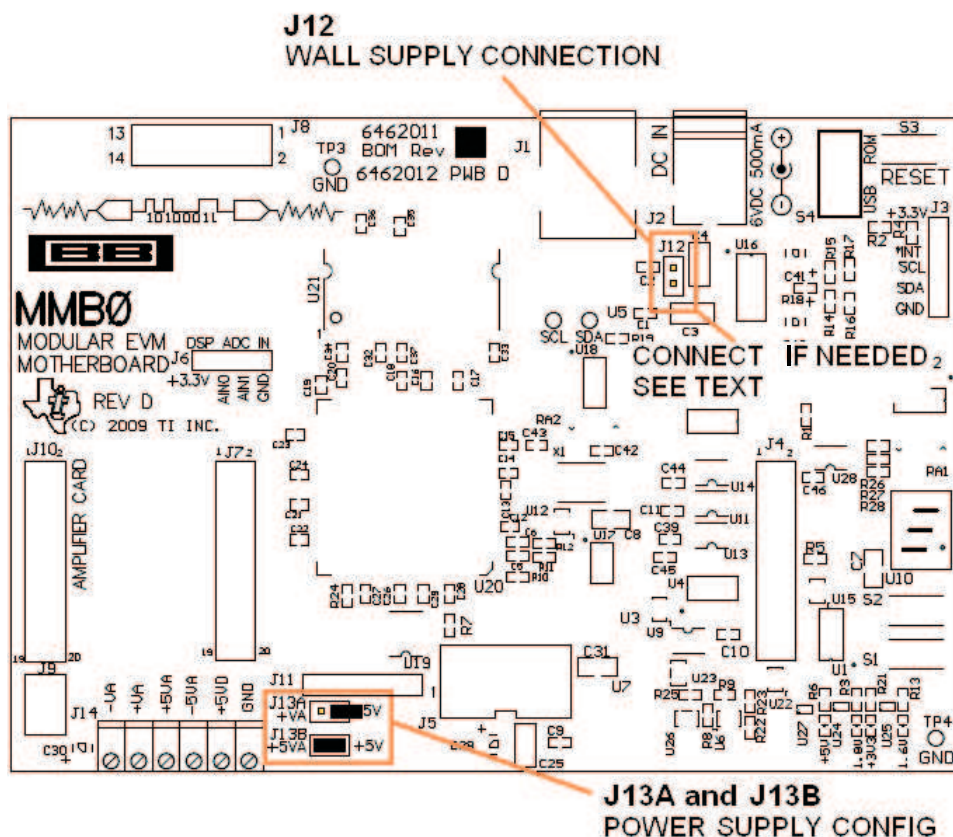

Figure 12. MMB0 Initial Configuration
- Step 2. Set the jumpers and switches on the MMB0 as shown in Figure 12.